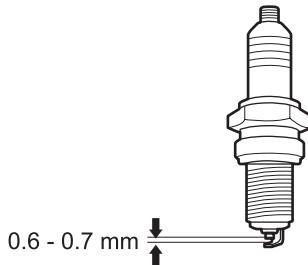

Fig. 39b
7. Check the spark plug gap; it should be 0.6 - 0.7 mm. (See Fig. 39b)